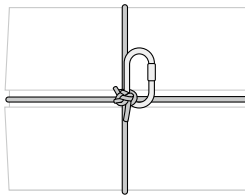

Figure 2
- If the cargo needs to be delivered for several times, use a runway type carabiner (≥ 8 mm diameter) or a steel ring (≥ 5 mm diameter) and fix to the end of the rope, as shown in Figures 2 and 3.